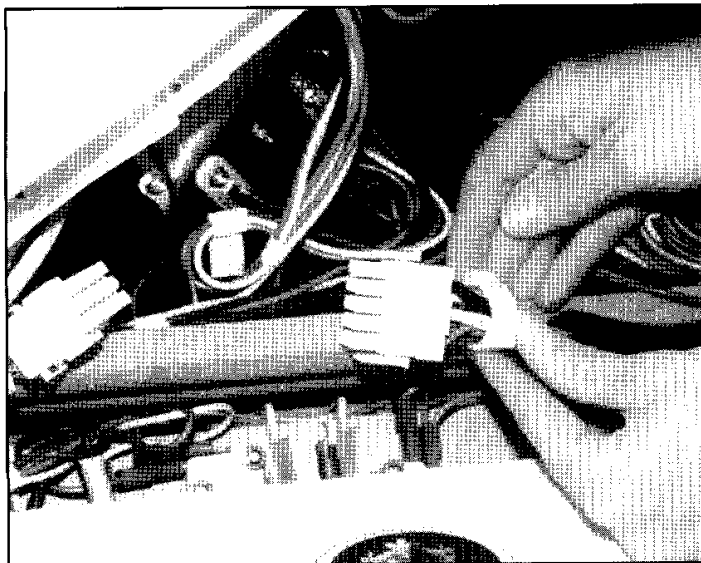
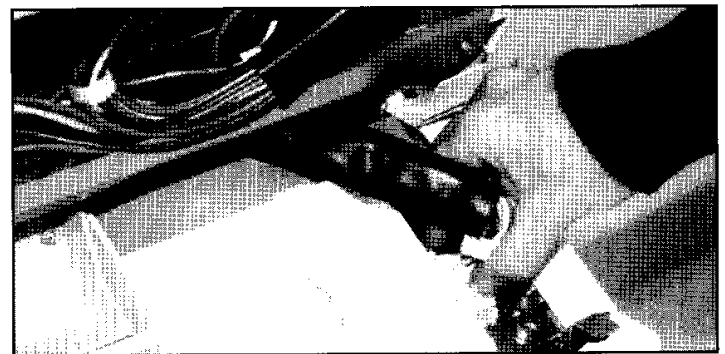

Figure 44
Figure 45
- 19.** Remove wire harnesses and plastic clips from base (see figure 44) and connect each harness to the connector in the washer making sure locking tabs are engaged, and harness is tucked out of the way of the dispenser. (See figures 45 & 46.)